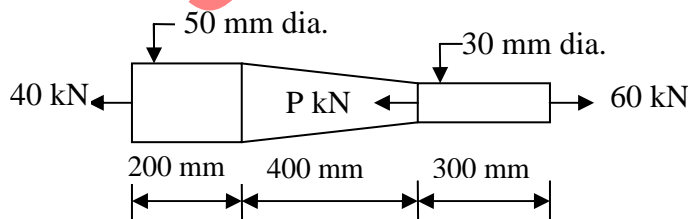

Fig.1 Q.3 (a)
- (i) Sketch principal planes for the elements subjected to following stresses on two mutually perpendicular planes: (1) Only direct stresses (2) Only shear stresses.
- (ii) Differentiate between: (1) Moment of couple v/s moment of force (2) angle of repose v/s angle of friction.
- Q.3(a)** An assembly of steel bars as shown in the fig.1 is in equilibrium. Find force P and the net elongation of the assembly. Take $E_s = 2 \times 10^5 \text{ MPa}$. **06**